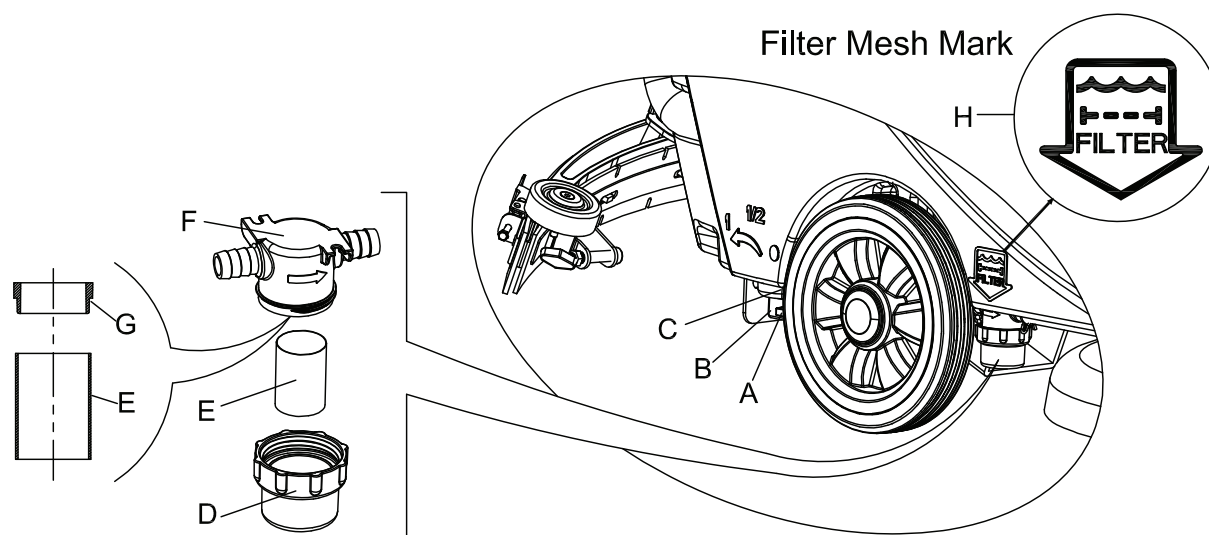

FIGURE 17
3. Press the power switch (41) to the "O" position to turn off the machine.
4. Turn off the draining ball valve (A, Figure 17) (located at the bottom of the machine, behind the wheels). Position B ball valve open, and position C ball valve closed.
5. Remove the transparent cap (D), and then take off the filter (E), and install them onto the filter box (F) after cleaning.